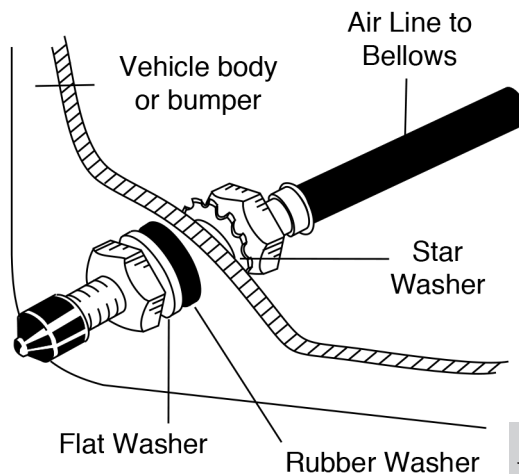

fig. 6
- B. Use a standard tube cutter, a razor blade, or very sharp knife to cut the air line assembly into two equal parts. A clean square cut will ensure against leaks. Drill 5/16" hole for inflation valves and mount as illustrated. Rubber washer on outside is for weather seal (Figure 6).